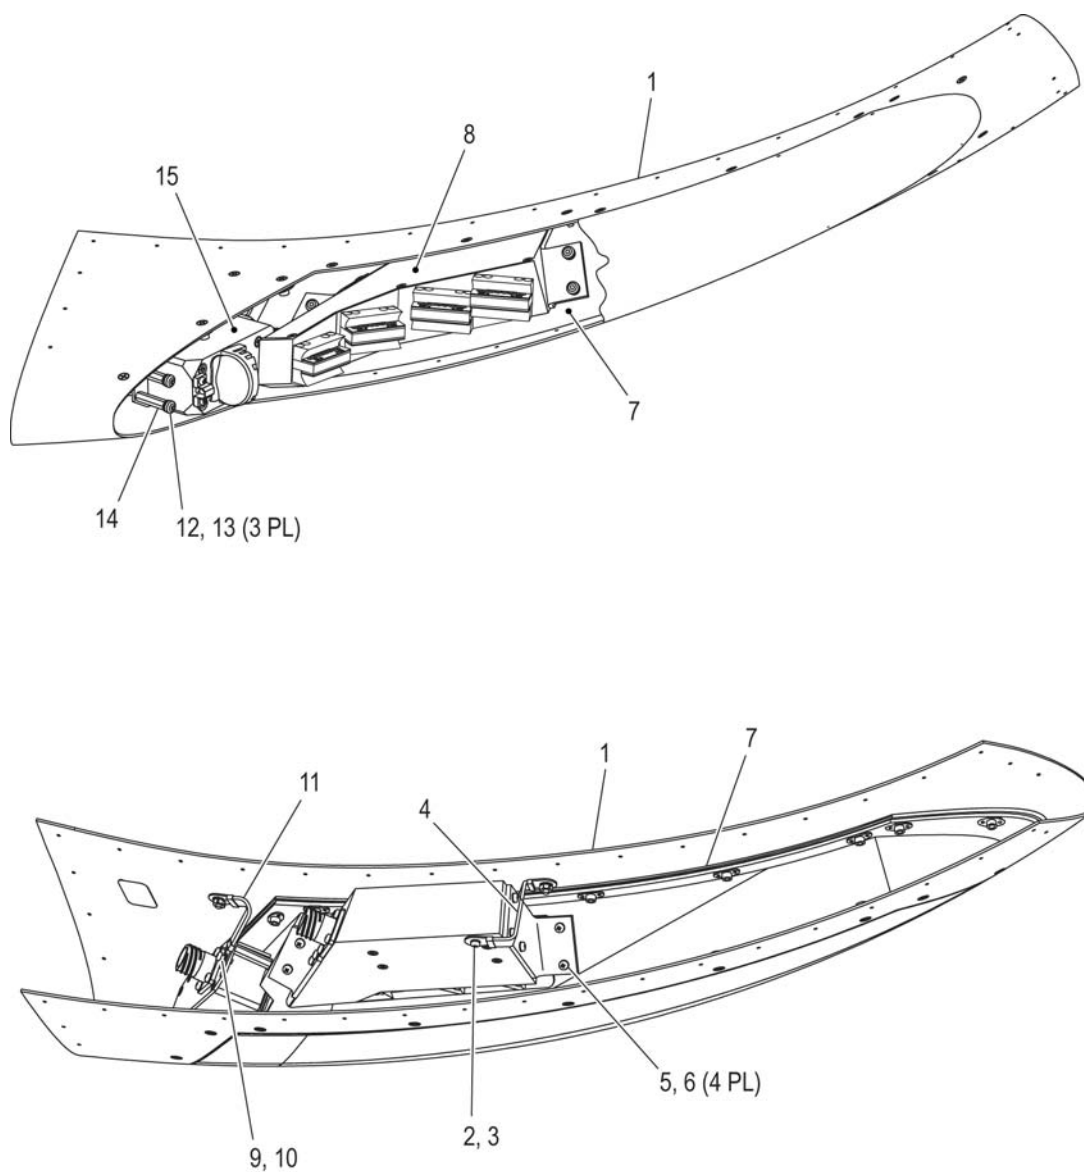

FIGURE 402:
6. Anti-collision Light Assembly Removal (Refer to Fig. 402)
- B. Remove the middle leading edge segment (1). Refer to Item 2 of this section.
- D. Remove screws, lock washers, and washers (2, 3) that attach the grounding strap (4) to the anti-collision light assembly housing.
- E. Remove the screws, lock washers, and washers (5, 6) that attach the anti-collision lights to the leading edge frame (7).
- F. Remove the anti-collision light assembly (8).
7. Anti-collision Light Assembly Installation (Refer to Fig. 402)
- A. Set the anti-collision light assembly (8) in position over the inserts on the internal frame (7) of the leading edge segment.
- C. Install the screws, lock washers, and washers (2, 3) that attach the grounding strap (4) to the anti-collision light assembly housing.
- F. Install the middle leading edge segment (1). Refer to step 5 of this procedure.
8. Navigation Light Assembly Removal (Refer to Fig. 402)
- D. Remove screws, lock washers, and washers (9, 10) that attach the grounding strap (11) to the Navigation light assembly housing.
- E. Remove the screws, lock washers, and washers (12, 13) that attach the Navigation lights to the stand-offs (14).
- F. Remove the Navigation light assembly (15).
9. Navigation Light Assembly Installation (Refer to Fig. 402)
- A. Set the Navigation light assembly (15) in position over the stand-offs (14) attached to the internal frame of the leading edge segment (7).
- C. Install the screws, lock washers, and washers (9, 10) that attach the grounding strap (11) to the Navigation light assembly housing.